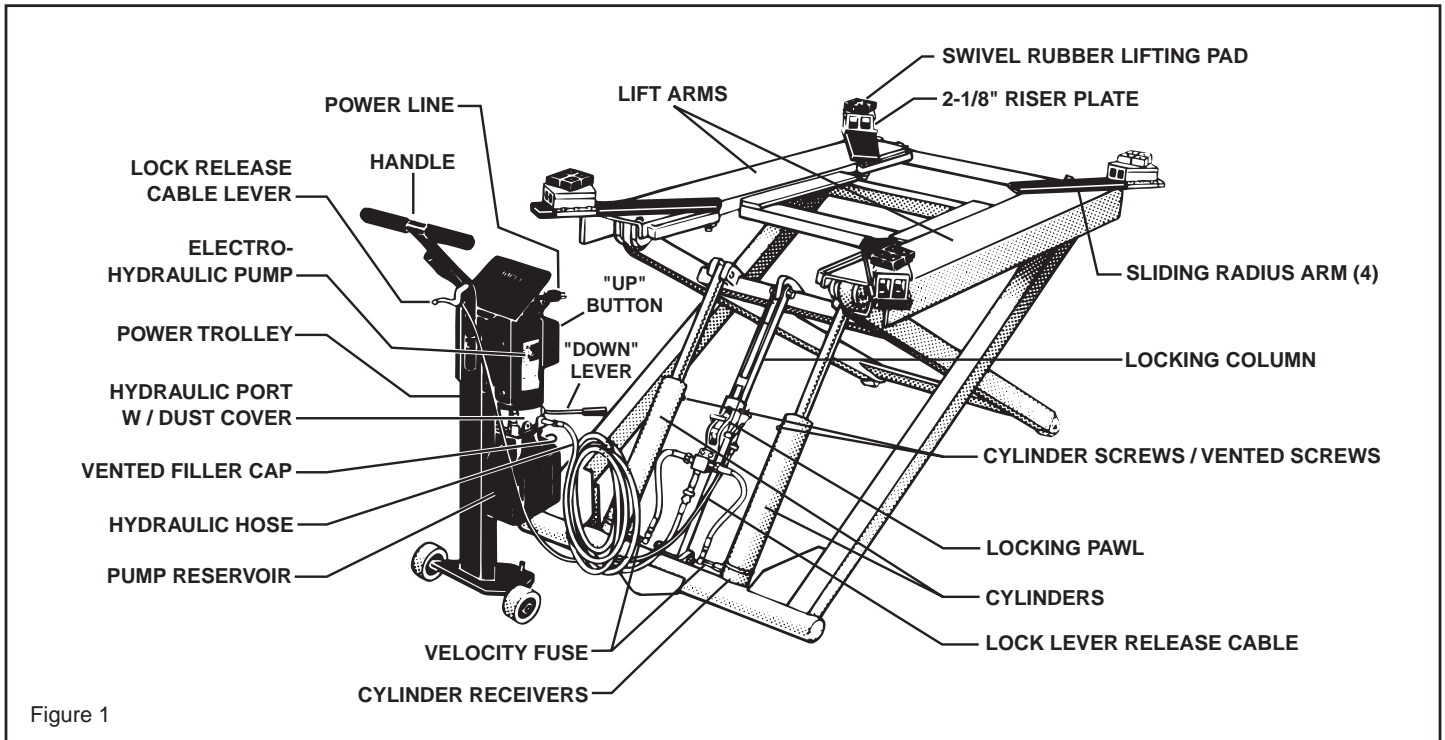

Figure 1
3. Install the lock release cable lever on the handle of the power trolley as shown in figure 1.
4. Remove the dust cover from the hydraulic port in the electrohydraulic pump and install the hydraulic hose as shown in figure 1.
6. Plug the power line into an approved 110V outlet. Remove the cylinder screws (see figure 1). Place a tray or container on the ground and inbetween the two cylinders. The cylinders are installed with hydraulic fluid forward of the seal in order to prevent rust and corrosion inside the cylinders during transport and storage. The first time you raise the lift the fluid will shoot out of the cylinder vent holes until the lift is raised to maximum extension. Lower the lift and raise it a second time to remove most of the fluid. After the second operation, replace the original cylinder screws with the vented screws provided.
5. Press the "up" button on the power pump to raise the vehicle (see figure 1). Once the lift saddles have contacted the vehicle